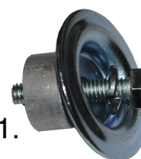

Fig 1.
1. Begin by familiarizing yourself with all the included hardware. Pair each bolt with a cupped washer, note that the 6mm bolts use a spacer as shown in fig 1. It is recommended that you also apply a small amount of oil or anti-seize compound to the locking nuts welded onto the #700-90 Brackets.